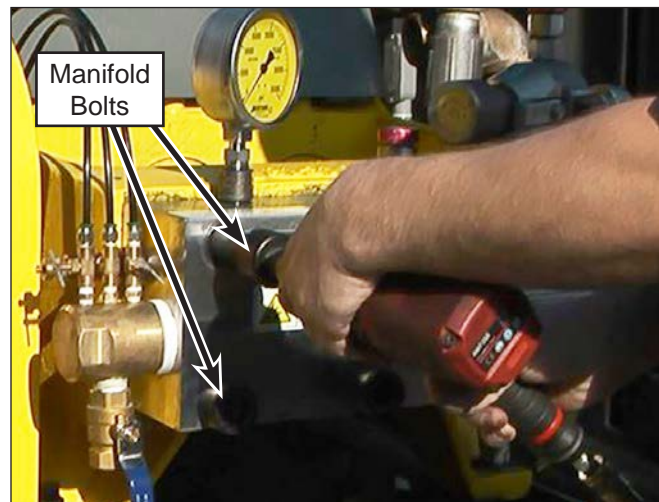

Figure 24: Manifold Bolt Removal.
7. Remove the top manifold bolts (Figure 24) at each corner.